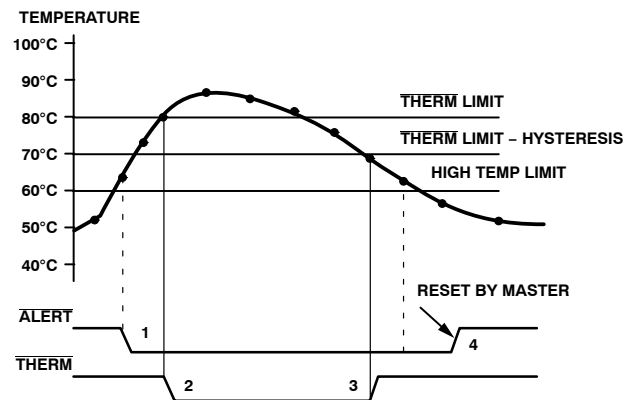

Figure 14. Operation of the $\overline{\text{ALERT}}$ and $\overline{\text{THERM}}$ Interrupts
Figure 14 shows how the $\overline{\text{THERM}}$ and $\overline{\text{ALERT}}$ outputs operate. The $\overline{\text{ALERT}}$ output can be used as a SMBALERT to signal to the host via the SMBus that the temperature has risen. The user can use the $\overline{\text{THERM}}$ output to turn on a fan to cool the system, if the temperature continues to increase.
- The $\overline{\text{THERM}}$ output de-asserts (goes high) when the temperature falls to $\overline{\text{THERM}}$ limit minus hysteresis. In Figure 14, the default hysteresis value of 10°C is shown.